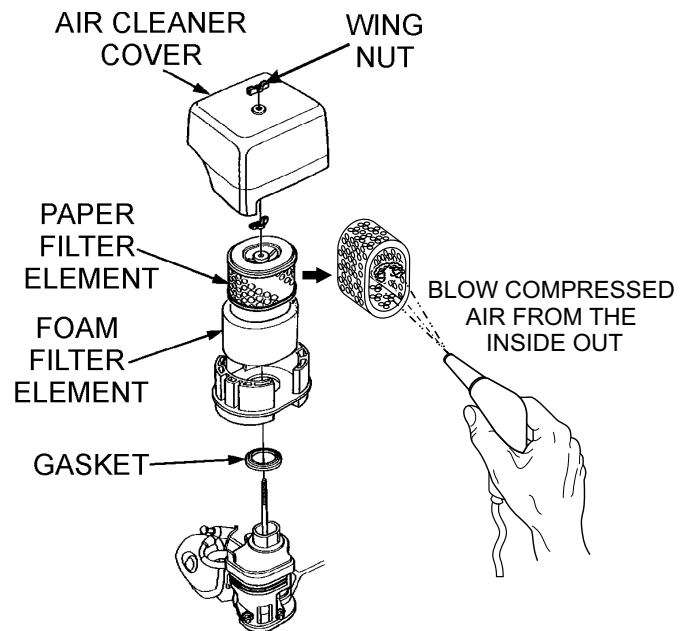

Figure 21. Engine Air Cleaner
1. Remove the air cleaner cover and foam filter element as shown in Figure 21.
2. Tap the paper filter element (See Figure 21) several times on a hard surface to remove dirt, or blow compressed air [not exceeding 30 psi (207 kPa, 2.1 kgf/cm²)] through the filter element from the air cleaner case side. **NEVER** brush off dirt. Brushing will force dirt into the fibers. Replace the paper filter element if it is excessively dirty.